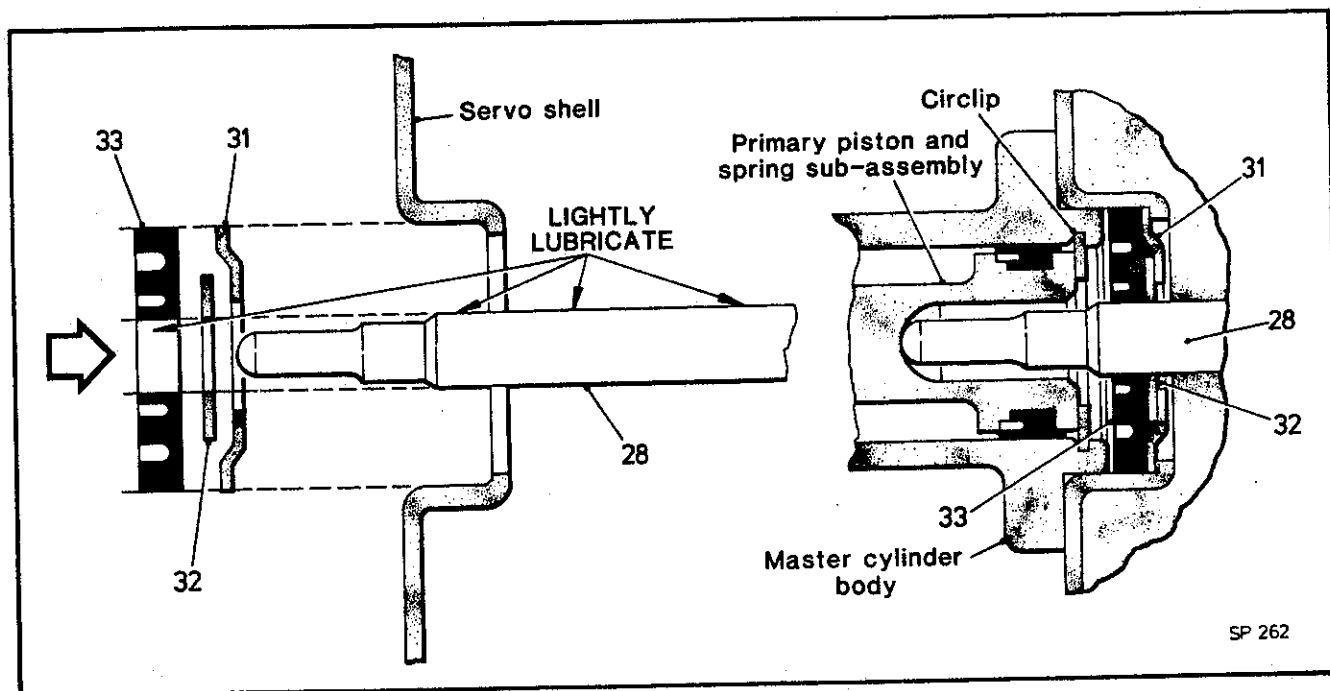

Fig. 7 Vacuum seal replacement
Lightly grease the outside diameter of the output pushrod (28) with Lockheed Disc Brake Lubricant, fit the pushrod, seal retainer (31) dished side inwards and backing washer (32) into the end of the vacuum shell. Smear the seal (33) with Lockheed Disc Brake Lubricant, slide over the end of the pushrod and locate into the end of the vacuum shell, (See Fig. 7).